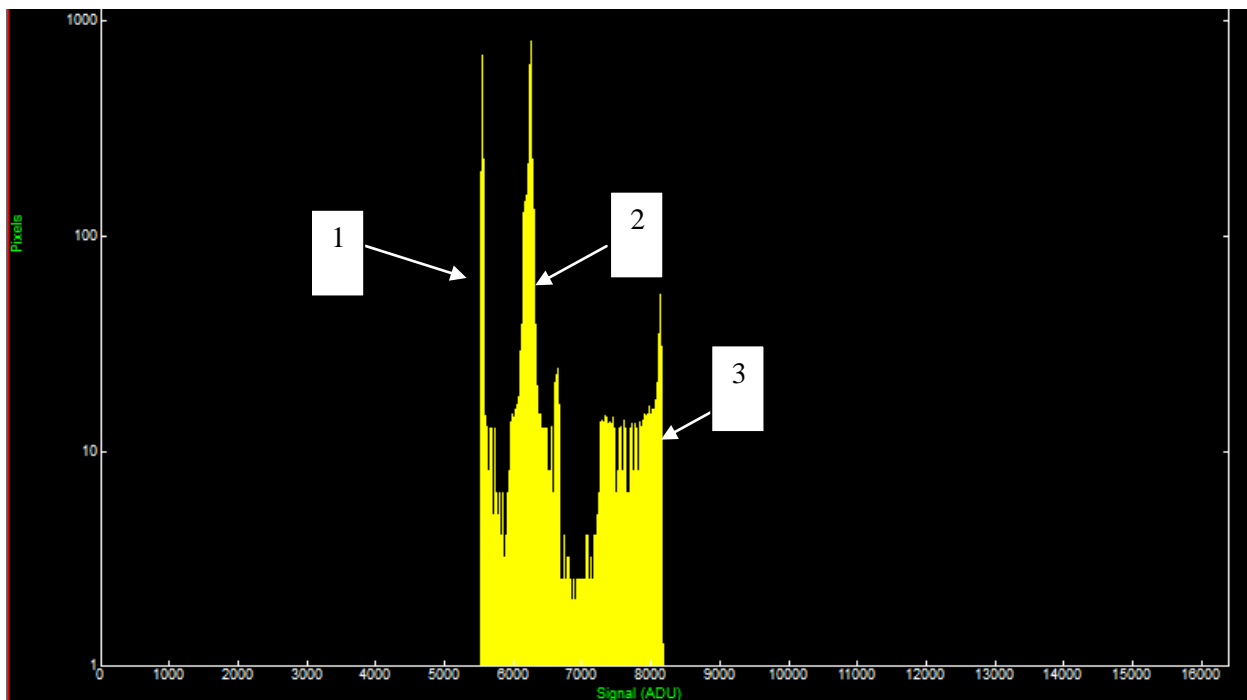

Figure 1: 14-bit Histogram
- Figure 1: 14-bit Histogram 4